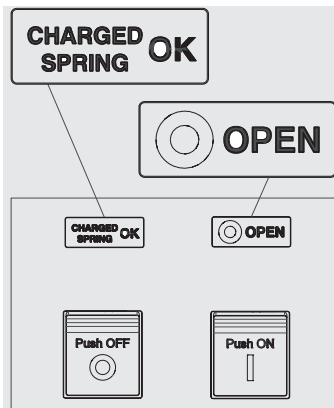

Figure 26
2. Circuit-breaker open with springs charged (see Figure 26).